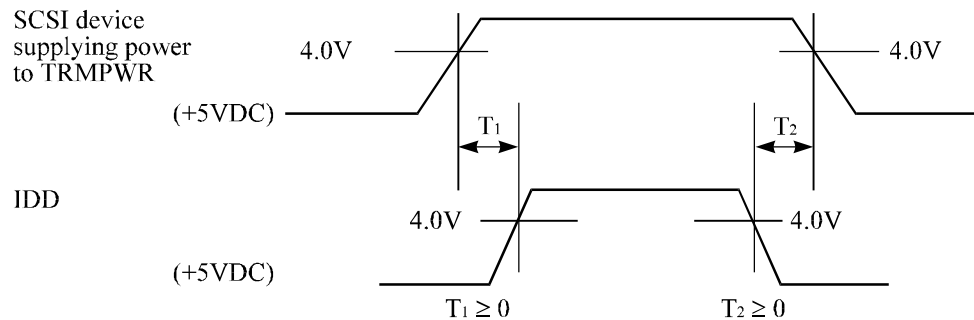

Figure 4.12 Power on/off sequence (1)
(3) Power on/off sequence
- b) In a system which uses the terminating resistor power supply signal (TRMPWR) on the SCSI bus, the requirements for +5 VDC given in Figure 4.12 must be satisfied between the IDD and at least one of the SCSI devices supplying power to that signal.